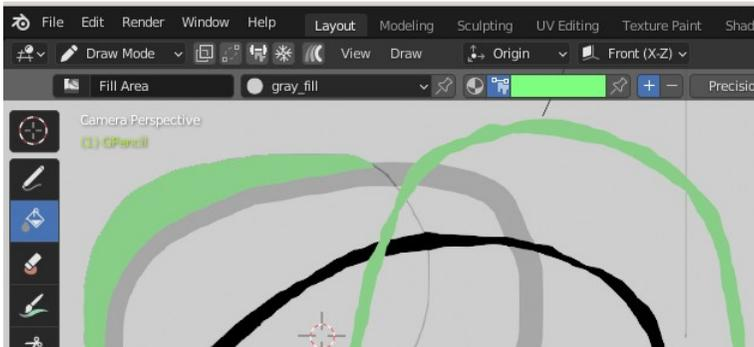

Figure 14-5 Vertex Color button in the header.
10. With the Fill tool enabled, click on an area of the drawing enclosed by one of the pencil or black pen lines, and you may be surprised to see that, rather than filling with the gray_fill material, the same vertex color was used as for the last stroke you drew. This is because the toggle between material drawing and vertex color persists as you switch between brushes or between the draw tool and the fill tool. In the header of the editor area you can see there are two cryptic buttons, just to the left of the vertex color picker, that can be used to switch between material and vertex color drawing and filling. See Figure 14-5.